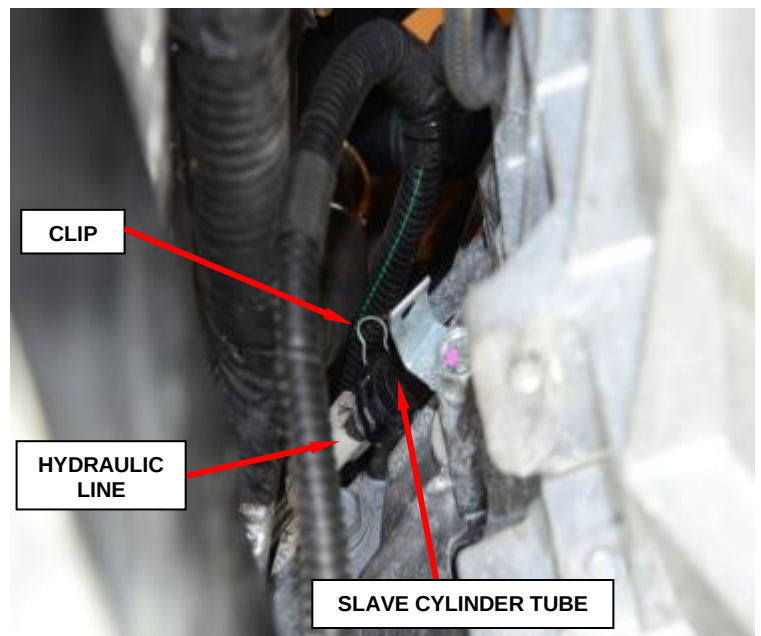

Figure 42 – Slave Cylinder
- b. Disengage the clip holding clutch hydraulic line to the slave cylinder tube (Figure 42).
- c. Pull the hydraulic coupling from the slave cylinder tube. Cover the end of coupler with suitable cap-plug (Figure 42).